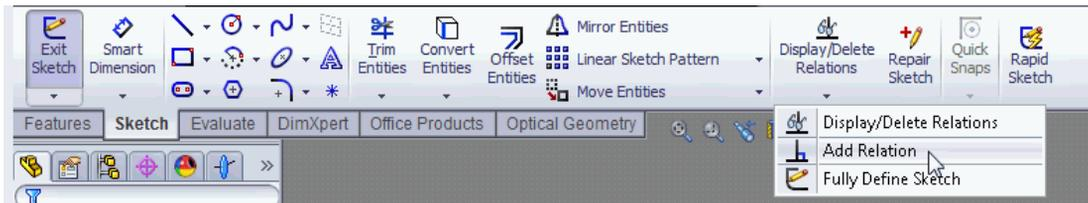

Figure 16 Add Relation on Sketch toolbar
- 12 Click the down arrow below **Display/Delete Relations** on the **Sketch** toolbar, and select **Add Relation**. See Figure 16.